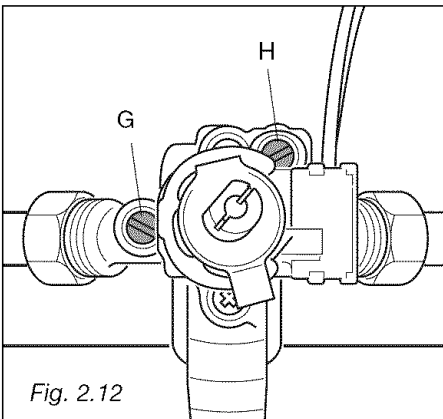

Fig. 2.12
- Using a screwdriver turn the screw **H** until the correct setting is obtained (fig. 2.12).
- Using a screwdriver turn the screw **G** until the correct setting is obtained (fig. 2.12).